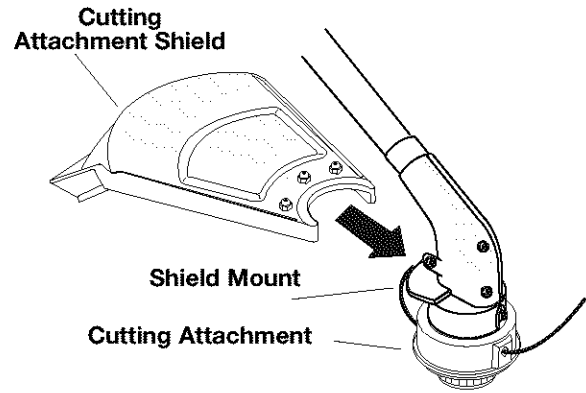

Fig. 4
1. Slide the cutting attachment shield into the shield mount on the cutting attachment. Align the screw holes in the shield with the holes in the shield mount (Fig. 4).